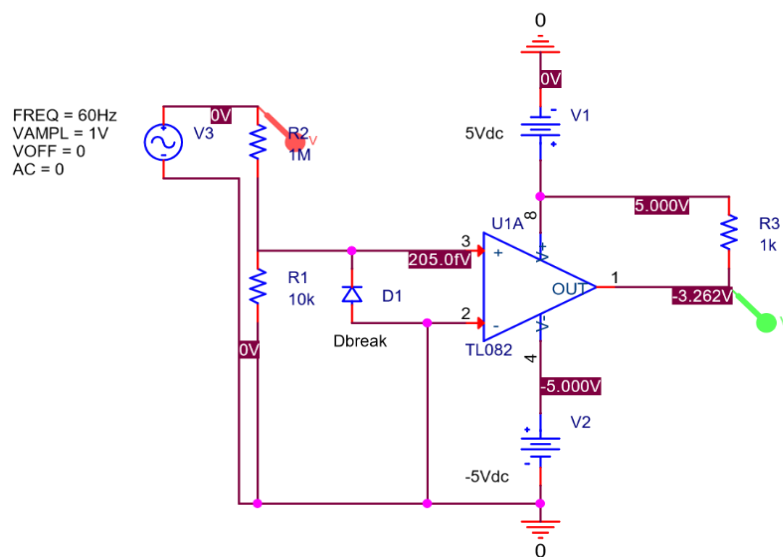

Figure 1
When using variable reluctance (VR) sensors in an automotive environment, the need to accurately determine positioning or speed of various spinning components (driveshaft, crankshaft, etc.) becomes an essential operation. Basic circuits can be constructed to provide a square wave response given a VR sinewave input signal. In figure 1, a basic comparator is shown with a few modifications such as the addition of D1 and the voltage divider R1 and R2. D1 ensures the noninverting input does not go below the negative input common mode limit of the comparator and the voltage divider protects the comparator against high voltages associated with fast spinning VR sensors. These modifications lead to satisfactory performance in theory.